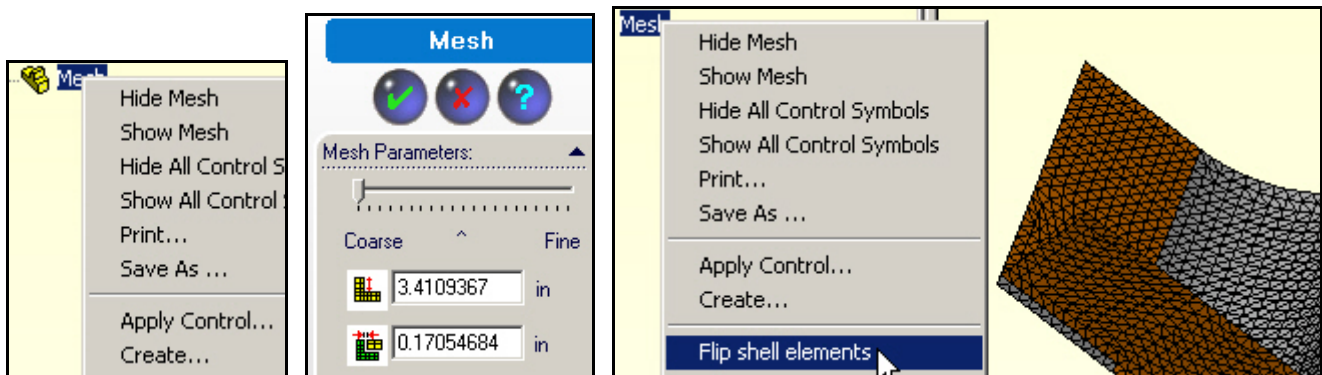
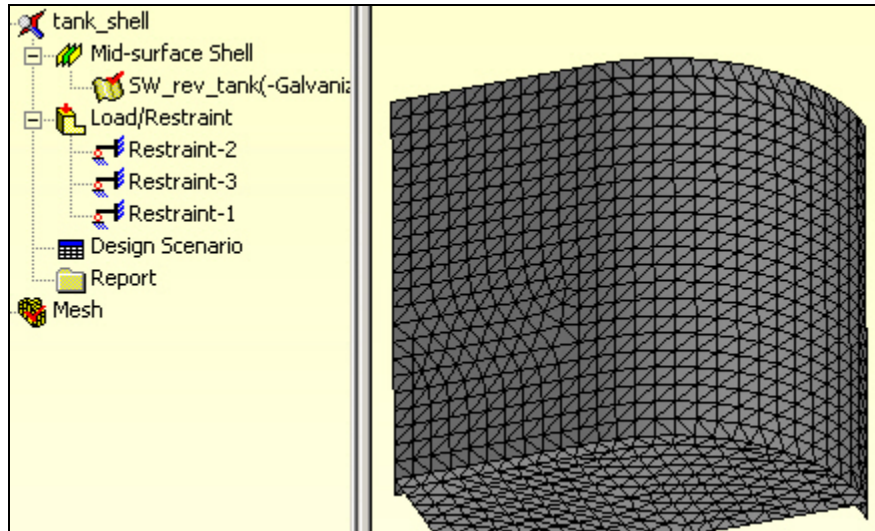

Figure 18 Building an crude initial shell mesh
Figure 19 Re-orientated initial mesh.
3. Control select those two segments and then right click **Mesh** and **Flip shell elements**, as shown in Figure 18. Now, all the (gray) shell tops should match in the fluid contact surfaces (Figure 19).
In the CWManager portion of Figure 19 you can see there are three active restraint sets, but no loads. In order to apply a variable pressure you first need to create a local coordinate system. The worst case water load is when the tank is completely full. Thus, prescribe a hydrostatic pressure load increasing from the top edge by defining a new local coordinate system: